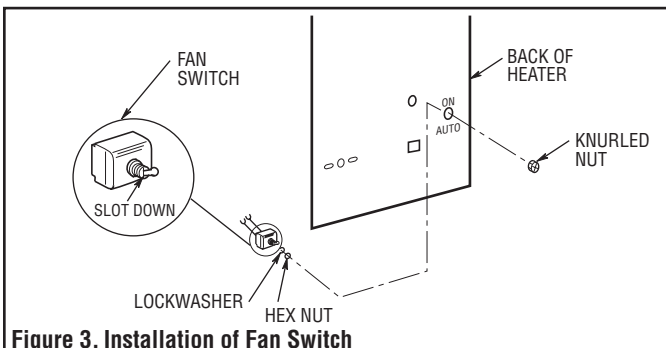

Figure 3. Installation of Fan Switch
1. Remove 1/2" (12.7mm) knockout (located between ON and AUTO) from back of heater (Figure 3).
2. Install manual fan switch as shown in Figure 3. (Note orientation of slot in switch nozzle. Locate slot in the switch nozzle towards the "AUTO" position.) Be sure to use lockwasher to prevent rotation of switch.